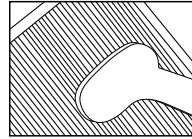

Fig. 8
4. Use the brush attachment with your vacuum cleaner. Run the attachment along both sides of the HEPA filters, cleaning thoroughly between the accordion folds of the filters. Fig. 8